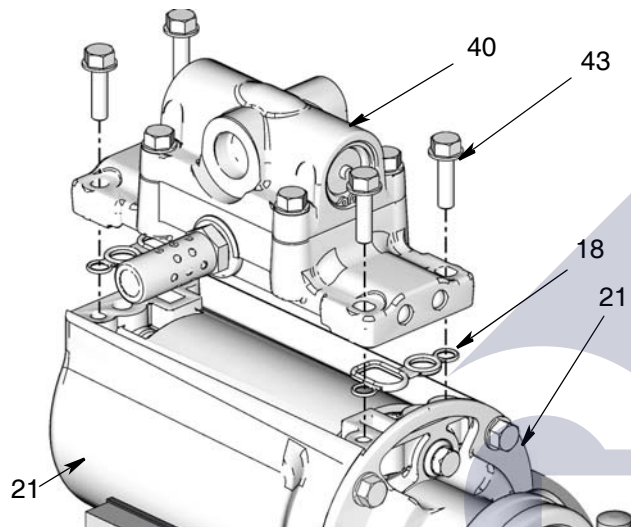

Fig. 9
15. Clamp the air cylinder (21) horizontally in a vise as shown in Fig. 9.
16. Using a 10 mm socket wrench, remove the 4 screws (43) from the air valve (40) and completely remove air valve assembly from air cylinder (21). Also remove the two cover gaskets (18). If you are replacing these parts, discard gaskets. (Fig. 9).